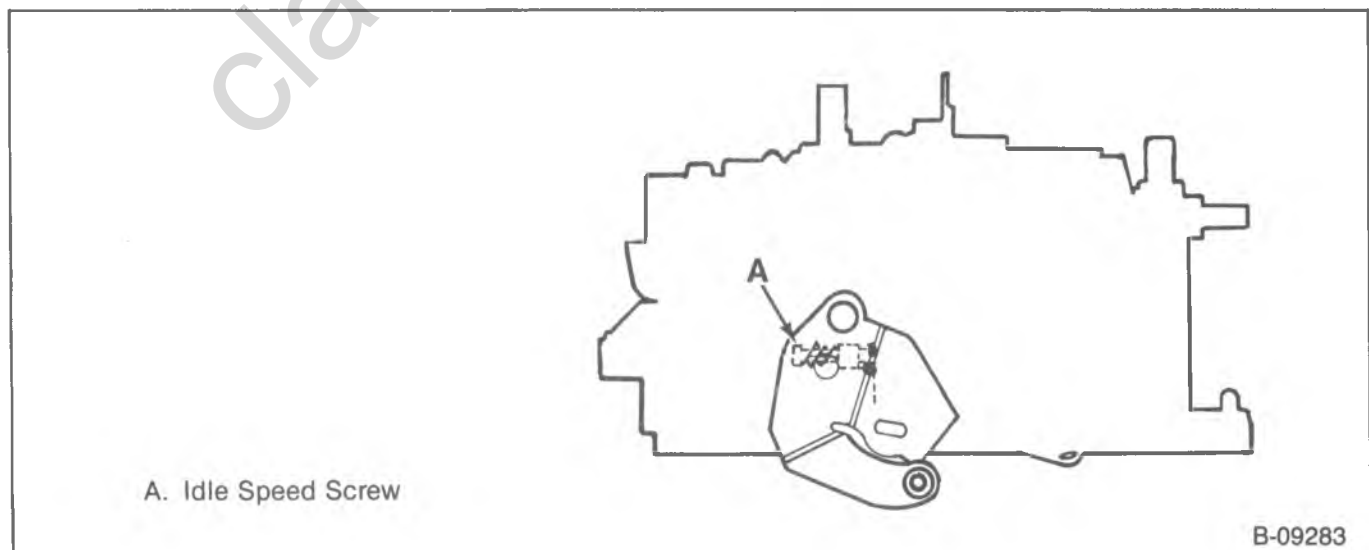

Figure 38—Idle Speed Adjustment - Without Idle Speed Solenoid
15. Check, (and if necessary, adjust), idle speed solenoid activated speed, and fast idle speed. Refer to figures 38 and 39 and the Emission Control Emission Information label.